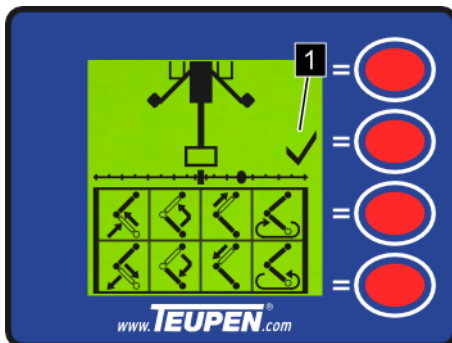

Fig. 127: Transport position
6. ➤ Continue to swivel the platform in the direction of the transport position until the transport position is shown on display screen with a tick (Fig. 127/1).